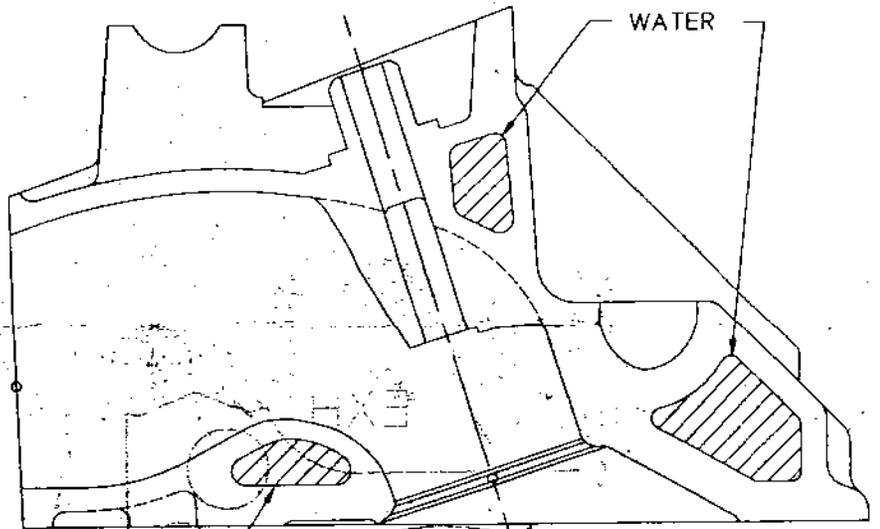

**FIGURE 1 - P4876412
The next step is to locate figure 1 of this instruction sheet, a view looking down on the combustion chamber. By the valve relationship, this chamber would be either the second cylinder or the last cylinder on the
head, counting from left to right. Notice that figure 1 has letters printed around each valve seat at 90 degree intervals. In figure 1, the smaller hole to the right is the exhaust seat and bowl area and is marked "EXH." The intake is to the left and marked "INT."
Now let's begin our detailed analysis by looking at the intake side. Place the exhaust templates in another area for the time being. We have 6 intake templates left, marked A1, A2, B, C, D1 and D2. You will notice that figure 1 had A-B-C-D marked around the intake valve seat with a letter every 90 degrees.
1. In figure 1, the center of the valve seat is noted with a "+" or cross, and locates the center of the valve guide.
4. With your magic marker, mark the letter as shown in figure 1 on the combustion chamber side of the valve seat on the head.
Special note: The ports on the first and third cylinders of the head are mirror images of the chamber shown in figure 1; the exhaust valve to the left and the intake valve to the right. On these seats the letter line-up for the template forms is as follows: A is still toward the top and C is still toward the bottom. D is away from the exhaust valve so it is now to the right. B is next to the exhaust valve so it is now to the left.
We recommend that all the valve seats be marked with the proper letters before you start the actual grinding operation. Double check each cylinder (2nd & 4th) with figure 1. On the 1st and 3rd cylinders, flip figure 1 over and double check again.
(section T-T from figure 1)